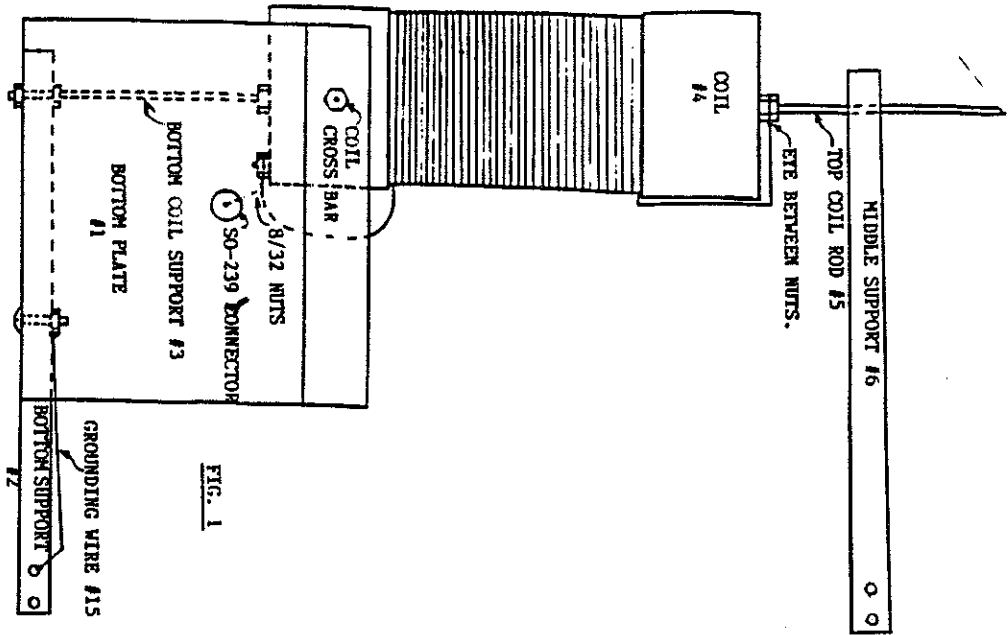

FIG. 1
1. Attach BOTTOM SUPPORT #2 to BOTTOM PLATE #1. Use one 1/4" x 1 1/2" bolt with a GROUNDING WIRE #15 and nut. Use the holes that are closest to the mast, do not tighten at this time. See FIG. 1. NOTE: PLATE #1 has the SO-239 Connector mounted on it.
2. Attach COIL #4 to BOTTOM COIL ROD #3. Each end of #3 should have a nut threaded to the end of the threads. The end with the shorter threads is screwed into the COIL #4 bottom. The nut is snugged to the coil to secure it. See Fig. 1 & 2.
3. Mount the COIL #4 to the BOTTOM PLATE #1/BOTTOM SUPPORT #2 by inserting BOTTOM COIL ROD #3 into the hole farthest from the mast. Use a second nut to secure. Now you can snug up both nuts on the BOTTOM SUPPORT #2. See Fig. 1.
5. Attach the wire pigtail from the SO-239 Connector and the wire pigtail from the bottom of COIL #4 to the 8/32 stud at the bottom of the coil. Remove one nut, put the solder lugs on and replace the nut and secure. See Fig. 1 and 5.
Put one nut on one end of the TOP COIL ROD #5. Put this threaded end through the wire eye at the top of the COIL. Attach a second nut, then screw the TOP COIL ROD #5 into the COIL. With the threads most of the way into the coil, tighten the nut against the coil, then tight the nut above the wire eye. See Fig. 1 and 3.